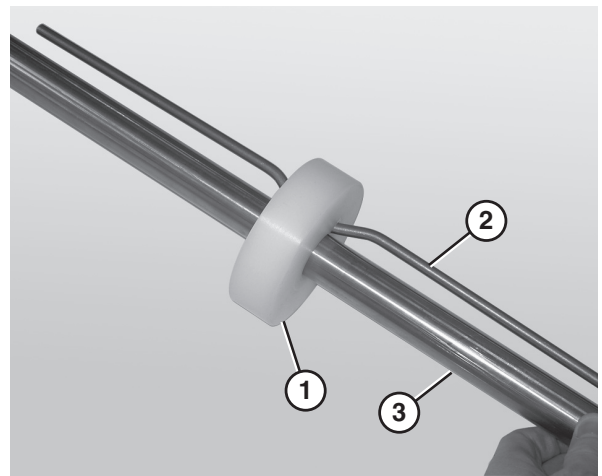

Figure 78
1. Place the idler puck (**Figure 78, item 1**) at the center of the bent retaining bar (**Figure 78, item 2**).
2. Slide the idler puck onto the idler shaft (**Figure 78, item 3**). Make sure to center the idler puck.